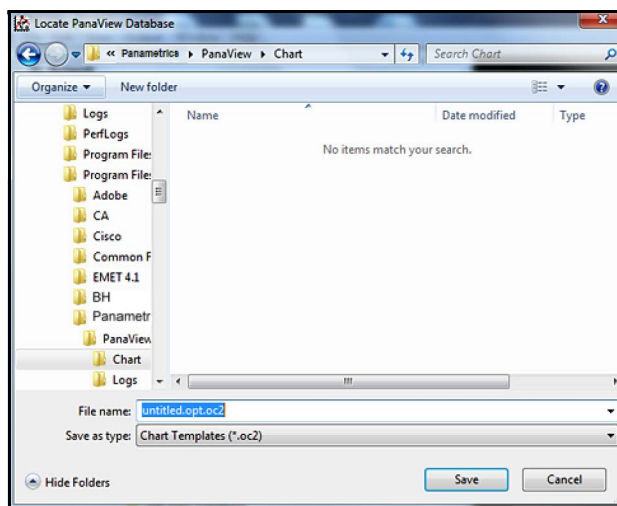

Figure 58: The Save Chart Style Dialog Box
- Click on the “Save Chart Style” option to save only the current graph properties (and not the parameters to be graphed) as a template for future graphs. When the dialog box in *Figure 58* below opens, enter a name for the chart (graph) template file and click the **[Save]** button to save the file as: